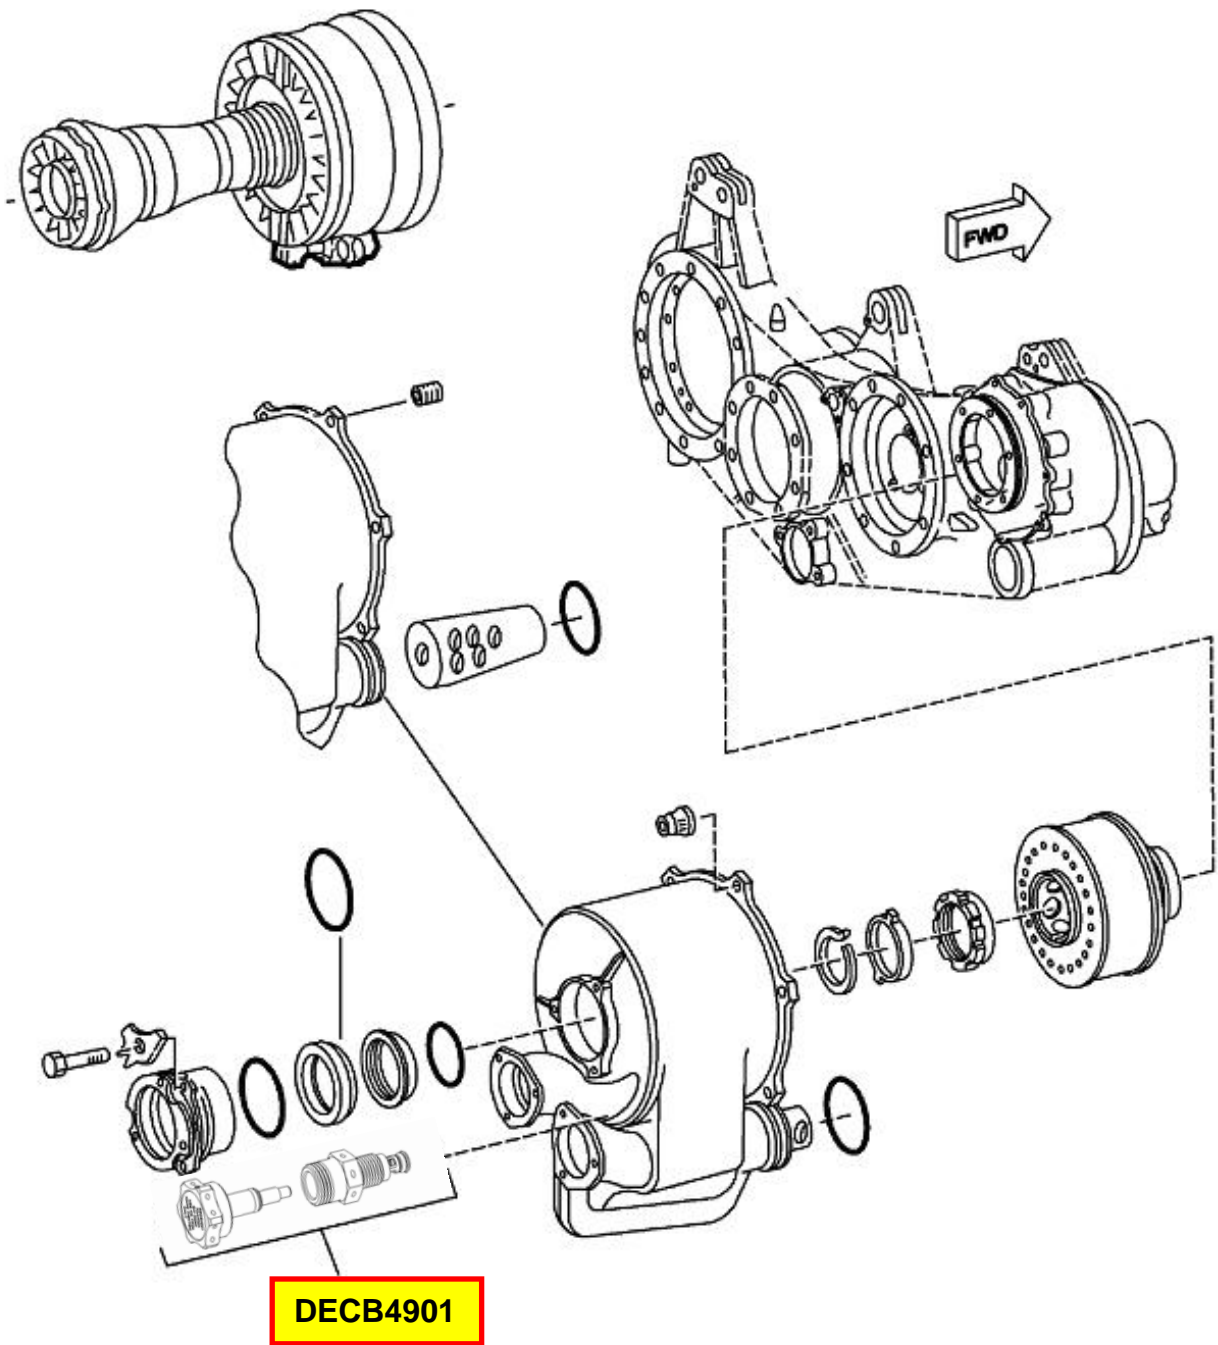

FIGURE 2
2. Installation Locations of P/N DECB4901 (Figures 2 thru 6)
- B. Install the Valve into the threaded port on the applicable next higher assembly (ref. Figures 2 thru 6). Using the wrenching flats only, torque the Valve Assembly 50 – 60 lb-in. (5.649 – 6.779 N.m).